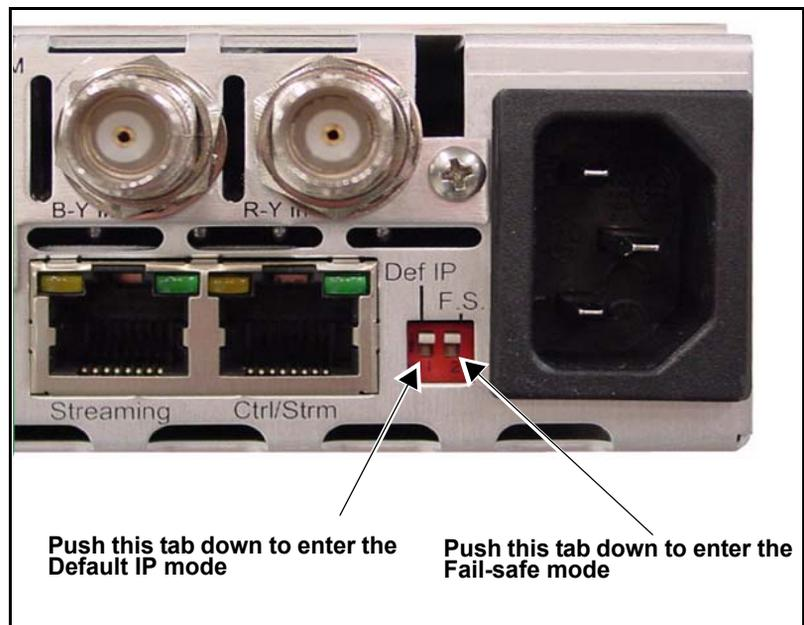

Figure B-10. Location of Def IP and FS DIP Switches
1. Push both **Def IP** and **F.S.** (Fail-safe) DIP switches at the back of the X85/X75 unit to the down position, and then re-power the unit (see Figure B-10).